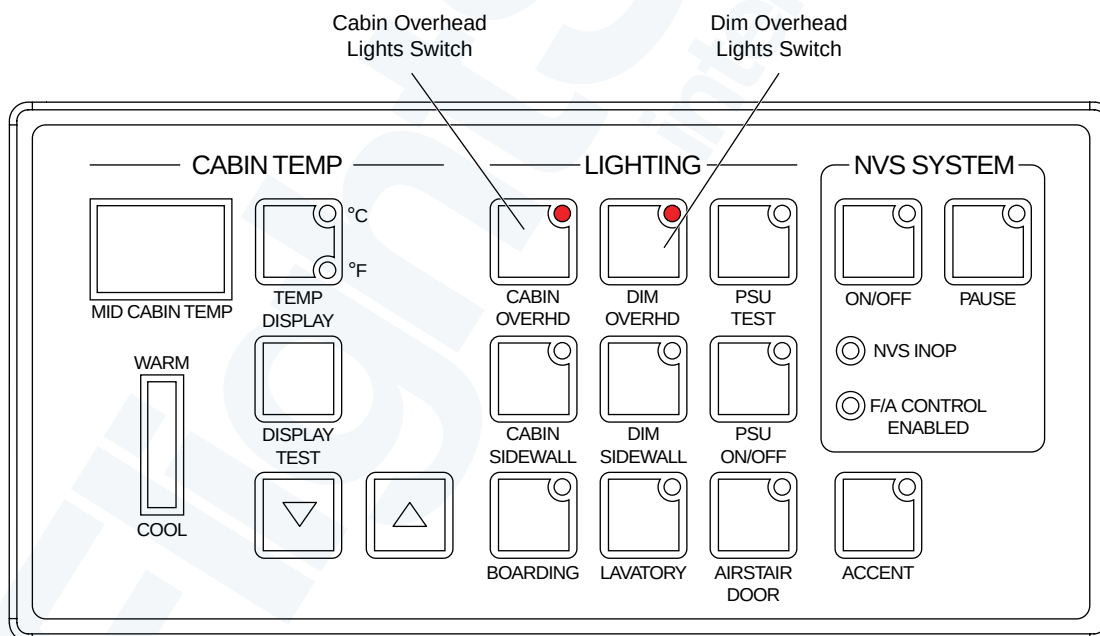

Figure 33-34. Cabin Overhead Lights Switches
- Figure 33-34. Cabin Overhead Lights Switches.